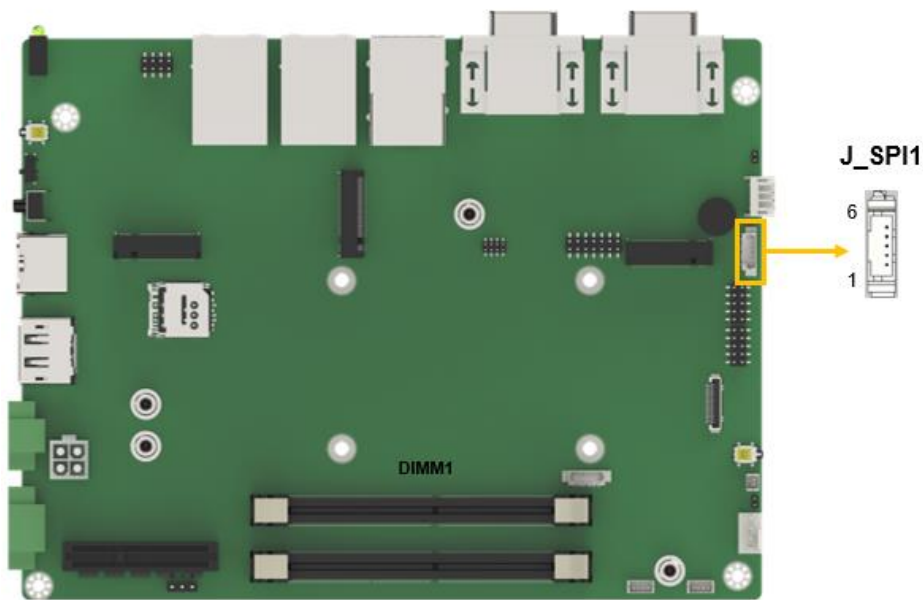

Figure 4-18: Flash SPI ROM Connector Location
- CN Location:** See Figure 4-18